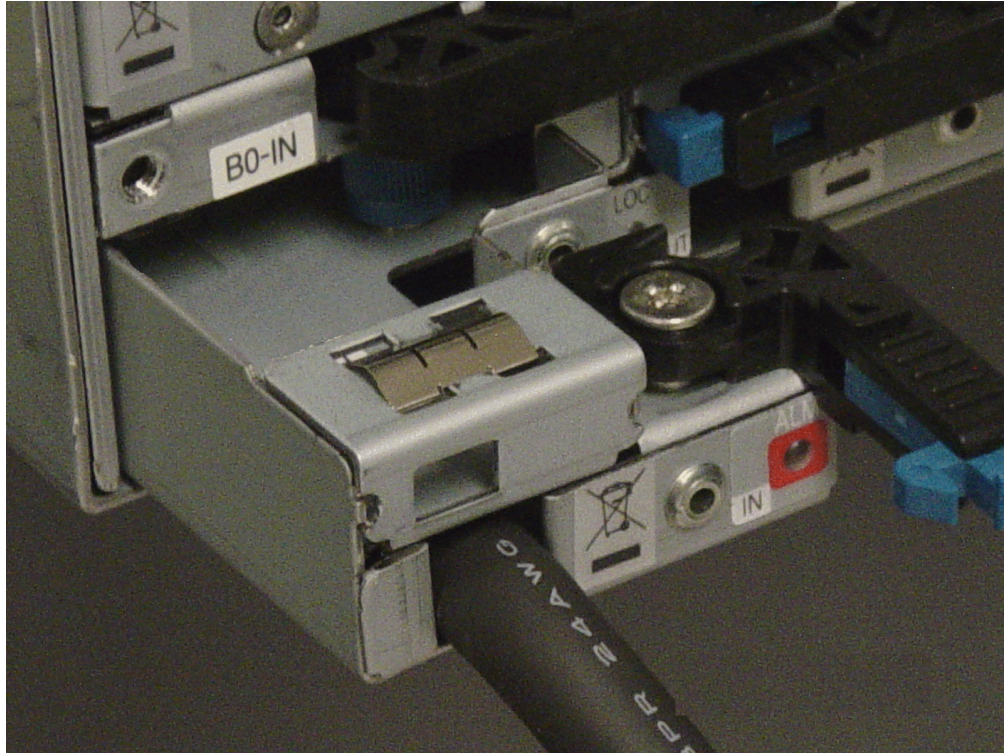

Figure 5-37: Connecting an ENC Cable to a High-density Expansion Unit
5. Open the lock lever on the ENC cable holder and slide the cable holder into the appropriate slot on the high-density expansion unit, as shown in Figure 5-37.